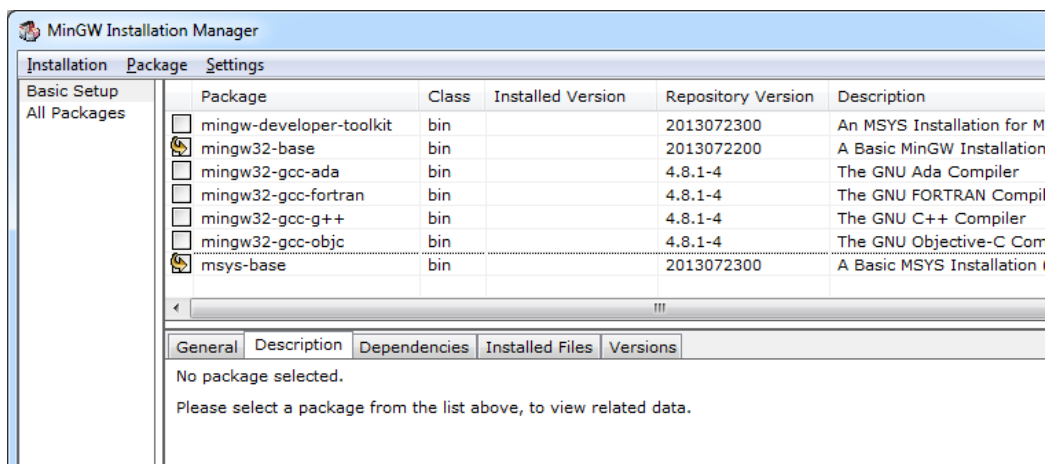

Figure 16 - MinGW Installation Manager
3. When the installation manager window appears, as shown in Figure 16, choose `mingw32-base` and `msys-base` in the “Basic Setup” section.